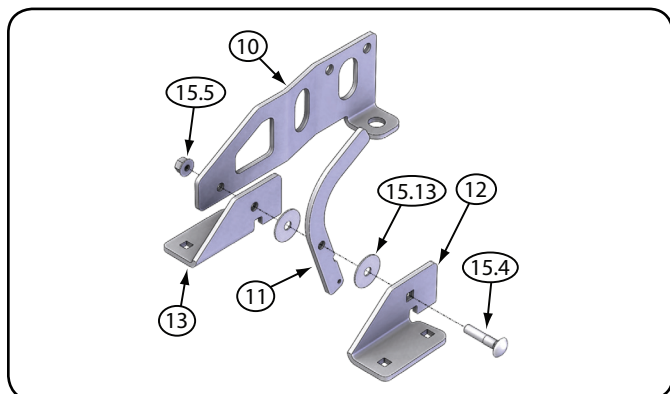

Figure 4 - Angle Lever Assembly (B)
1. Assemble left handle plate (12), 2× washer (15.13), pivot handle (11), right handle plate (13), and hook plate (10) using the $\frac{5}{16} \times 1\frac{1}{2}$ in. (7.9 × 38.1 mm) standard carriage bolt (15.4) and $\frac{5}{16}$ in. (7.9 mm) flange nut (15.5) as shown in Figure 4. Tighten down nut so that angle lever moves freely. This will create the angle lever assembly (B).